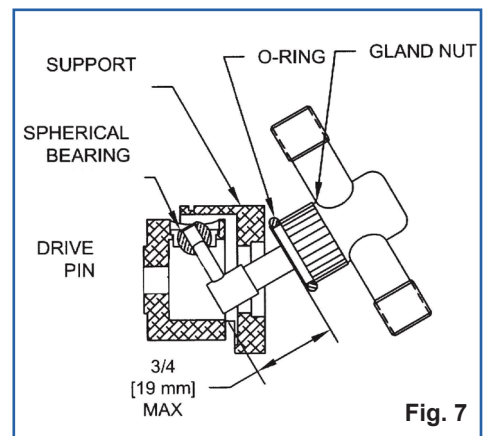

Fig. 7
**15. REMOVING PISTON/CYLINDER GROUP ASSEMBLY.** (Refer to Fig. 7.) Remove two screws and while holding cylinder ports in place, slip the CYLLINDER CAP off of the CYLINDER ASSEMBLY. Tilt the assembly as shown in Fig. 7. This will permit removal of the PISTON DRIVE PIN from the SPHERICAL BEARING without fully withdrawing piston from liner.
**16. PISTON/CYLINDER GROUP ASSEMBLY REPLACEMENT.** (Refer to Figs. 7,8) Install the "O" RING over the GLAND NUT. Note in Fig. 7 that the PISTON DRIVE PIN must be guided into the SPHERICAL BEARING while the piston and cylinder remain assembled. This for the purpose of avoiding assembly damage to the seals. When PIN is in bearing, seat GLAND NUT with "O" RING in SUPPORT as shown in Fig. 8.